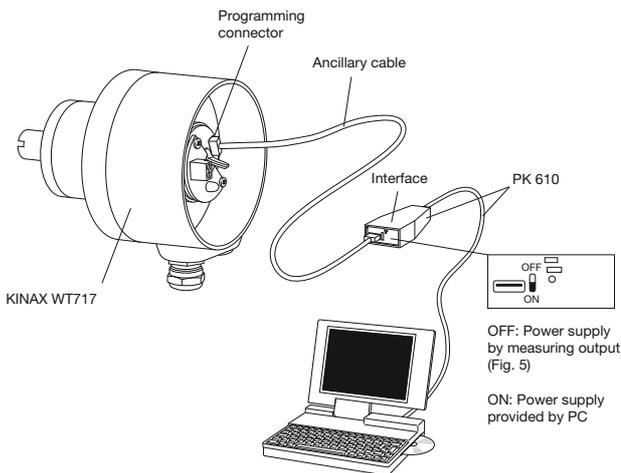
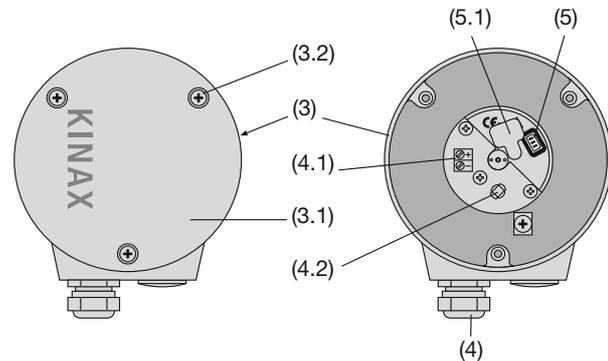

Fig. 3
Fig. 4. Rear (3) with terminals (4.1) and cable glands (4).
1. Remove the cover (3.1 in Fig. 4). Remove the rubber cover (5.1) to gain access the programming connector (5), (see section "8.1 Connecting transmitter"). Connect the KINAX WT 717 to the programming device according to Fig. 3. Start the 2W2 configuration software. If necessary, configure the device with the required measuring range data.
- Put the transmitter into operation and connect the programming device according to Fig. 3 (AUX switch on the PK 610 on the OFF position).